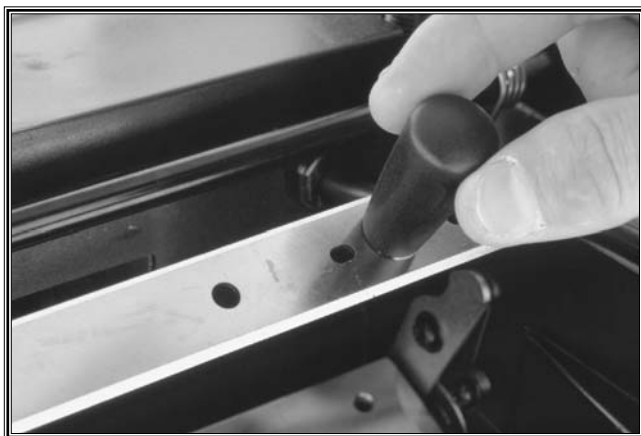

Figure 20. Lift out the knife with the magnets.
7. Use the magnets to lift the knife from the the cutterhead and out of the planer. See **Figure 20**.